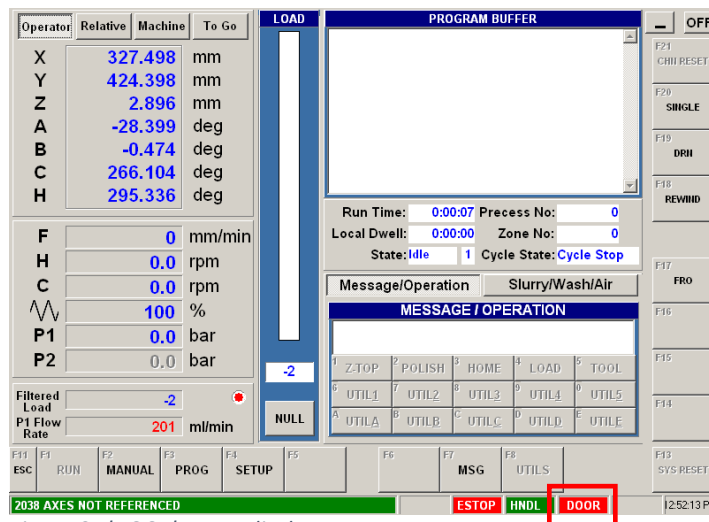

Figure 6 - 'DOOR' status display
3. Observe that the "DOOR" status display on the GUI is RED. See *Figure 6 - 'DOOR' status display*.